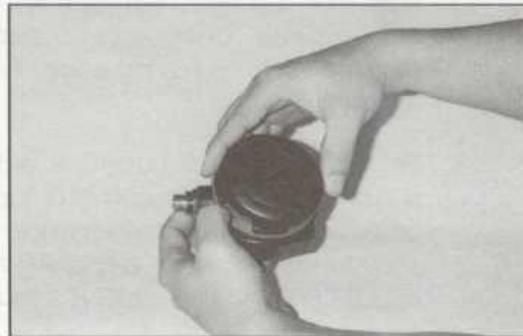

FIG 7-2
3. Remove the diaphragm cover (22) by using your finger nail to gently depress the locking tang located on the diaphragm retainer (23) and twisting the cover 1/8 turn counter-clockwise. Refer to figure 7-2.
4. Remove the diaphragm retainer (23) by gently prying upwards all around until both the retainer & the diaphragm come off as an assembly. Remove and inspect the diaphragm (24) for tears, decay, damage or excess debris at this time. **RECORD FOR REPLACEMENT** if found.